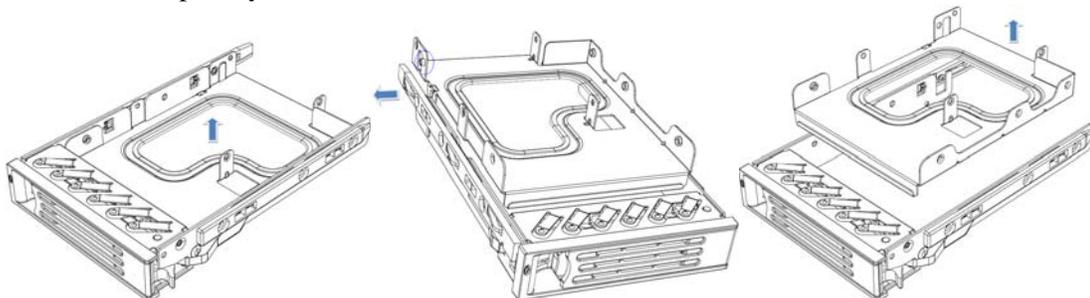

Figure 2. Removing the Bracket from Carrier
- Figure 2. Removing the Bracket from Carrier 2